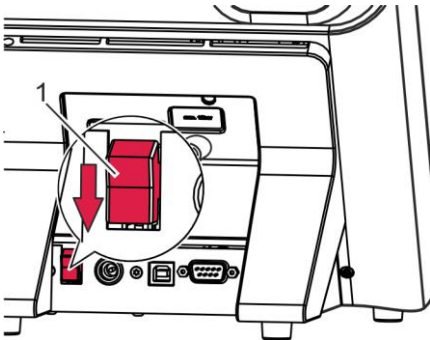

Fig. 20: Switching off the Proofmaster
3. Switch off the Proofmaster with the [I/O] switch (Fig. 20/1) in the direction of the arrow (Fig. 20).